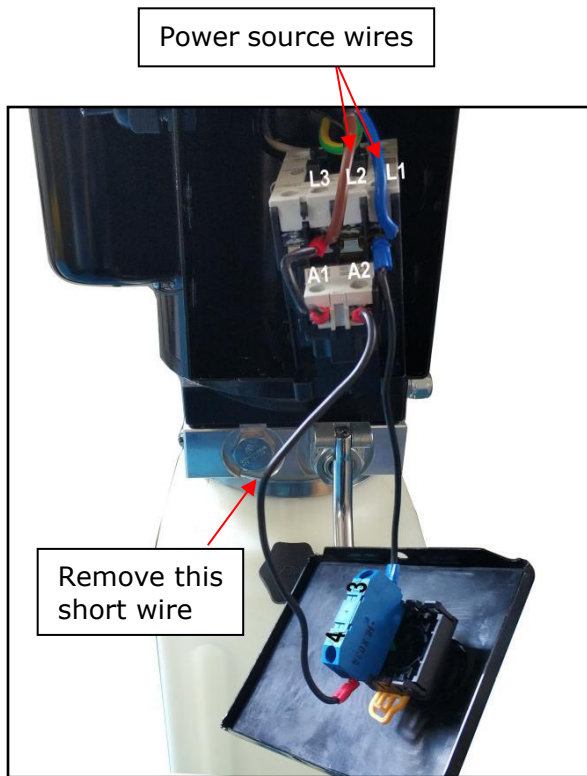

Fig. 40
2. Connecting the limit switch wire: Remove the short wire that connects # 4 and # A2 as shown in Fig.40. Then according to the wire number of the limit switch, connect them respectively to terminal 4# of control button and A2# of AC contactor.